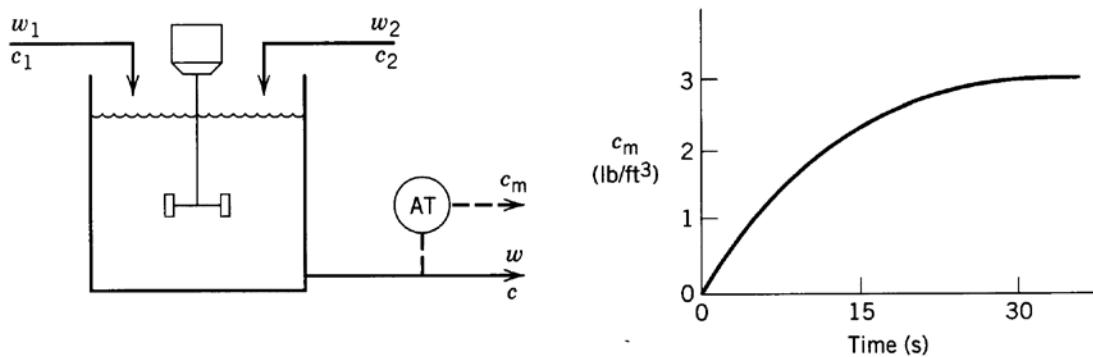

Figure Q.2.[a]: Mixing Tank
2. [a] The caustic concentration of the mixing tank shown in Figure Q.2.[a] is measured using a conductivity cell. The total volume of solution in the tank is constant at 7 ft^3 and the density ($\rho = 70 \text{ lb}/\text{ft}^3$) can be considered to be independent of concentration. Let c_m denote the caustic concentration measured by the conductivity cell. The dynamic response of the conductivity cell to a step change (at $t = 0$) of $3 \text{ lb}/\text{ft}^3$ in the actual concentration (passing through the cell) is also shown in Figure Q.2.[a].